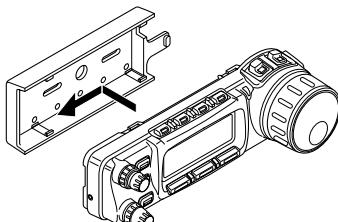

Figure 7
8. To install the Front Panel into the Mounting Nest, align the mounting lugs of the Mounting Nest with the corresponding slots in the Front Panel, then insert the Front Panel into the Mounting Nest, as shown in Figure 7.